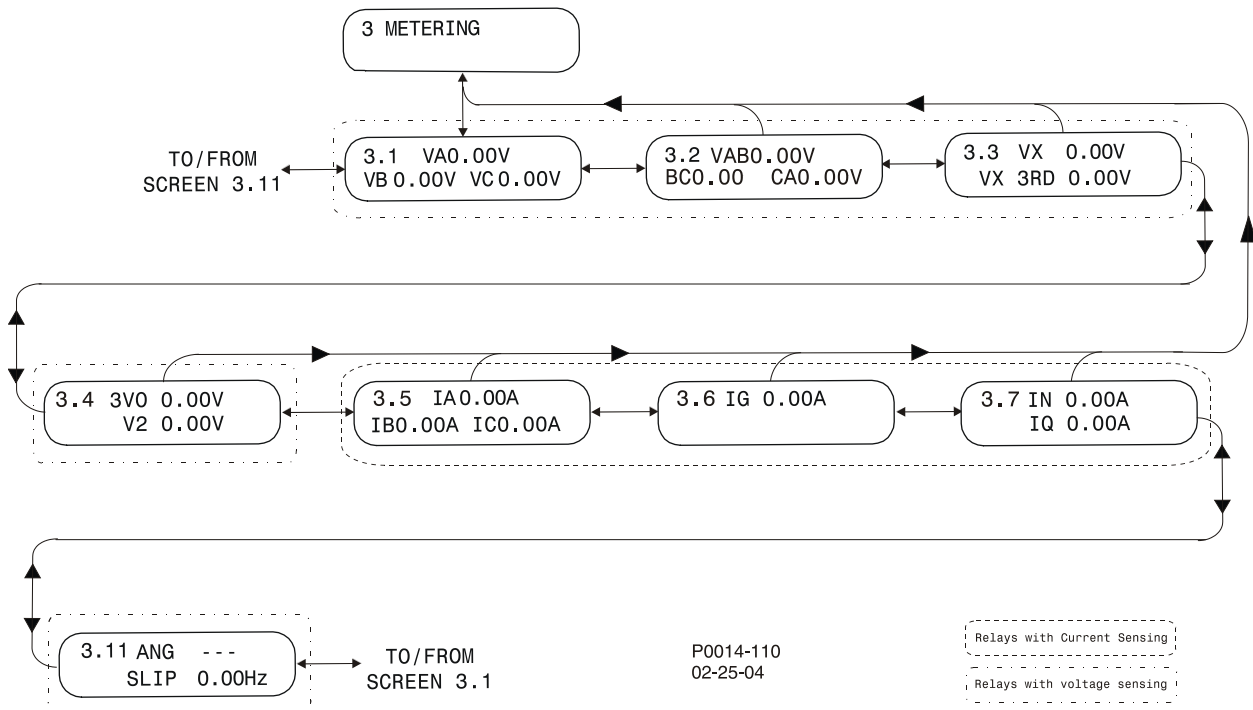

Figure 10-5. Metering Menu Branch Structure
3. METERING – Displays real time metering values. Figure 10-5 illustrates the structure of the Metering menu branch.